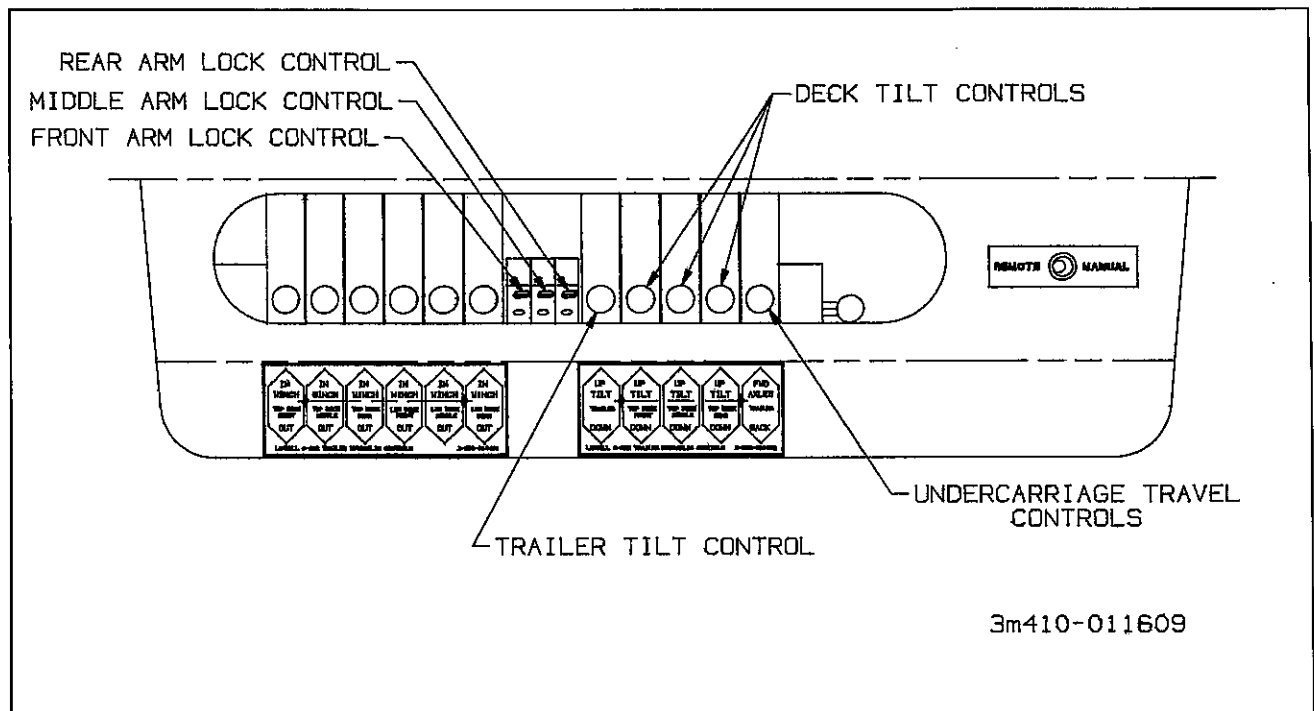
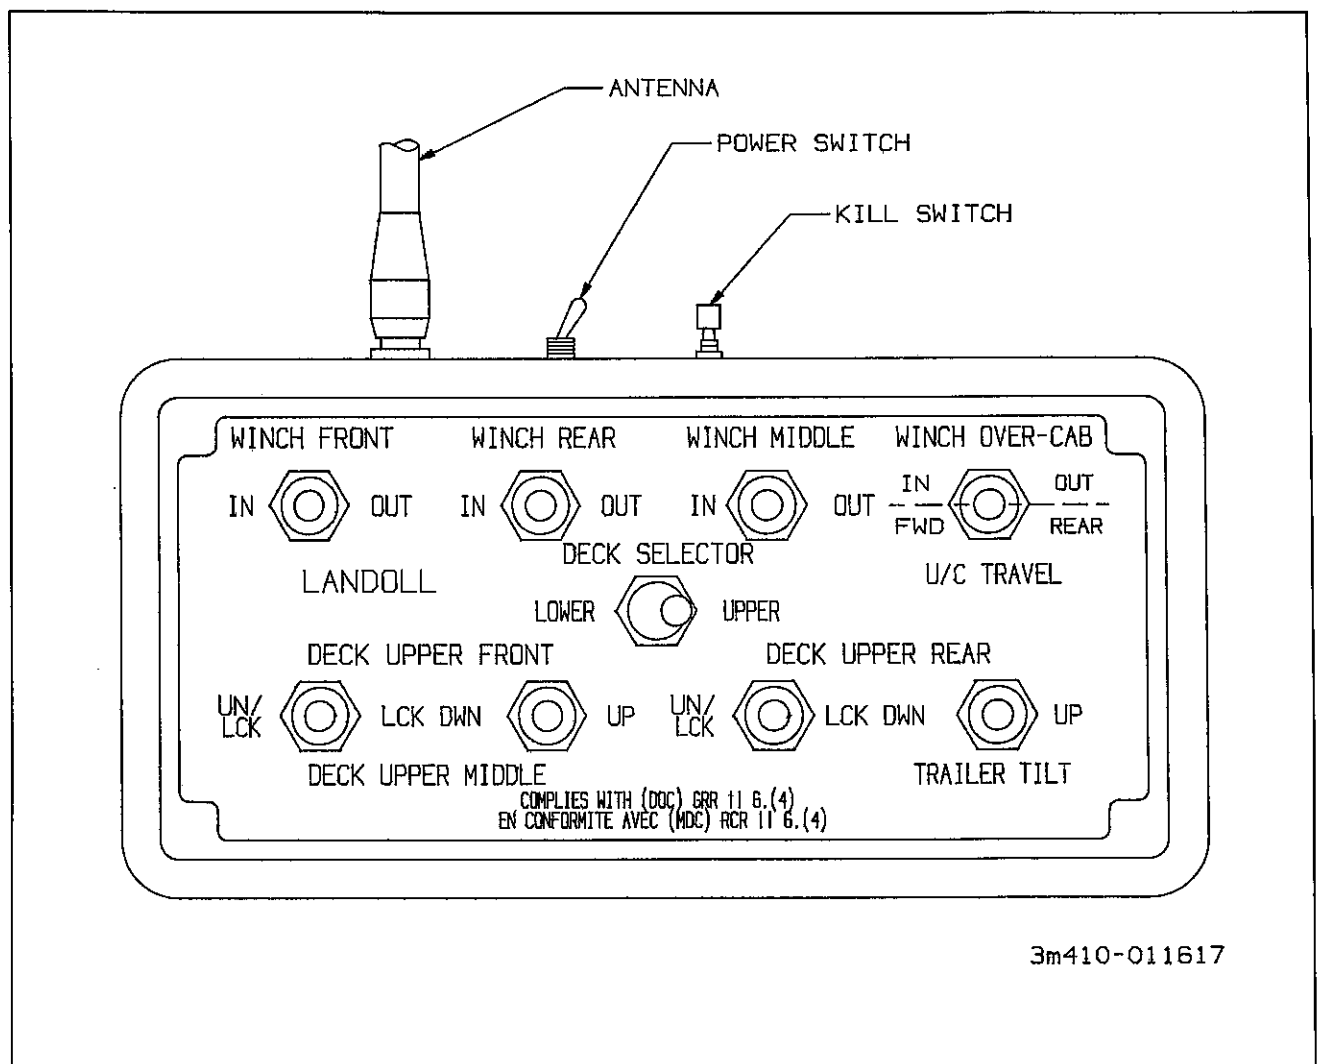

Figure 3-2 Hydraulic Control Levers
Figure 3-4 Remote Control
3-1.2 The king pin plate should be the same height as, or slightly lower than, the latch area of the fifth wheel plate of the tractor. If necessary, connect the tractor hydraulic lines. Use the **TILT TRAILER** lever (see **Figure 3-2**) to raise or lower the kingpin plate sufficiently to allow proper coupling. Drain all air and moisture from the tractor air brake system in accordance with the tractor manufacturer's instructions.
3-4.1 While hydraulic power is operating, raise the front end of the semitrailer with the **TILT TRAILER** lever (see **Figure 3-2**) until weight is off the landing gear. Raise landing gear. Secure each leg with a park stand retaining pin in fully retracted position before transporting.
3-9.2 The WINCH hydraulic levers (see Figure 3-2) are located on the hydraulic control panel or the remote control (see Figure 3-4) if present. It is a three position control:
3-10.1 The power switch is located on the top of the box and must be turned on for the the remote control to operate. (See Figure 3-4.)
- a. Hold the Lock Control in the unlock position (see Figure 3-2) and joggle the TILT control for that arm until it unlocks.